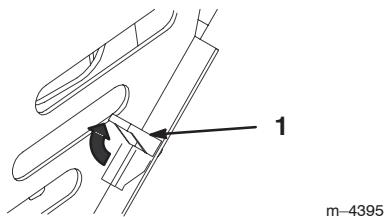

Figure 15
3. Release the four locking tabs (Fig. 15).
1. Position the hood over the traction unit frame with the posts on the hood fitting into the holes on the frame (Fig. 15).
2. Secure the hood by pushing the locking tabs forward and down (Fig. 15).